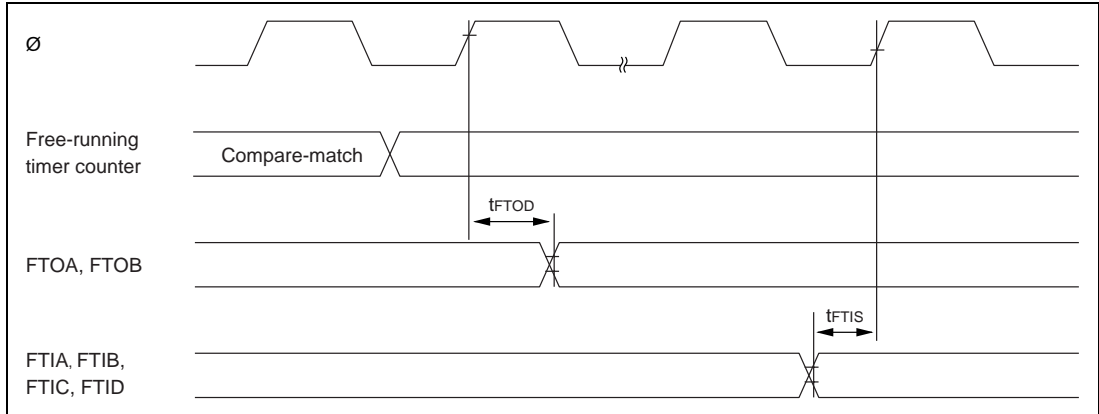

Figure 16.10 Free-Running Timer Input/Output Timing
16.3.3 16-Bit Free-Running Timer Timing	Figures 16.10 to 16.11